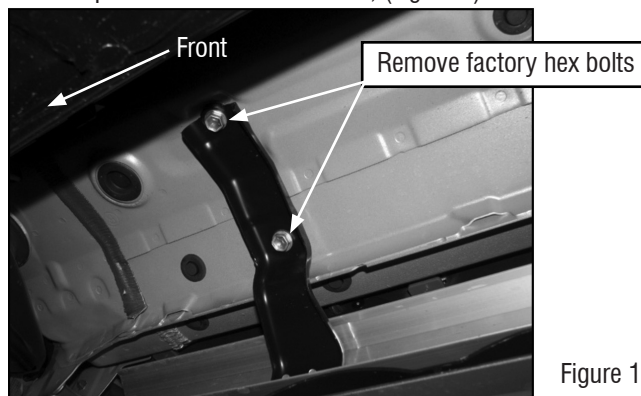

Figure 1
Starting on the passenger side of the vehicle, remove the existing (2) factory bolts located by the front tire opening securing the factory rocker panel bracket to the vehicle, (Figure 1).